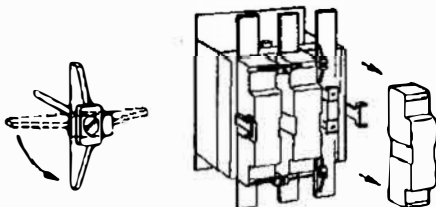

Figure 1 - Arc Chute Removal
2. Loosen the 4 screws attached to the arc chute hold-downs far enough to rotate them 90°. See Figure 1.